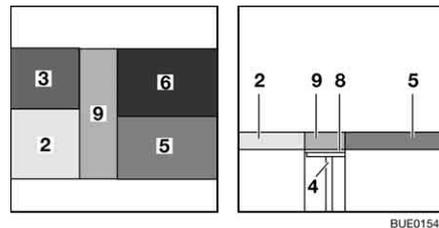

Fig. 144 After conversion
- Place the back cushion (Fig. 144,6) on the table in front of the seat cushion (Fig. 144,5).
- Place the additional cushion (Fig. 144,9) between the bench and the vario seat.
- Place the back cushion (Fig. 144,3) on the vario seat extension in front of the seat cushion (Fig. 144,2).